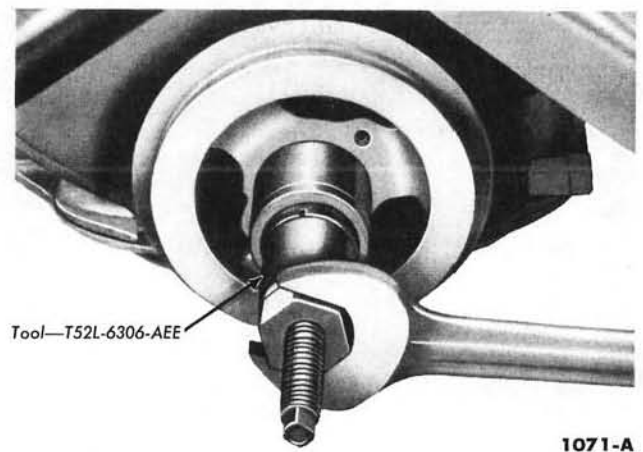

FIG. 23—Damper Installation
2. Align the damper keyway with the key on the crankshaft, and start the damper on the shaft. Press the damper on the shaft (Fig. 23). Install the lockwasher and capscrew, then tighten the capscrew to 85-95 foot-pounds torque. Install the pulley, spacer and fan. Install and adjust the drive belts. Install the radiator and fill and bleed the cooling system.